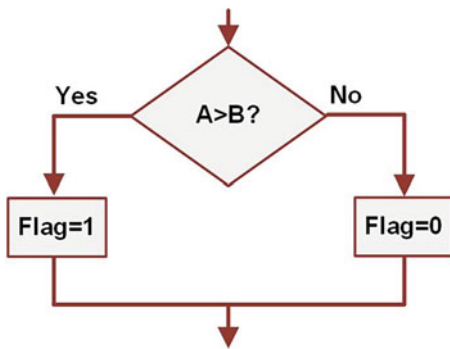

Fig. 8.6
- 8.4.1 Which high-level programming construct does the flow chart in Fig. 8.6 represent?